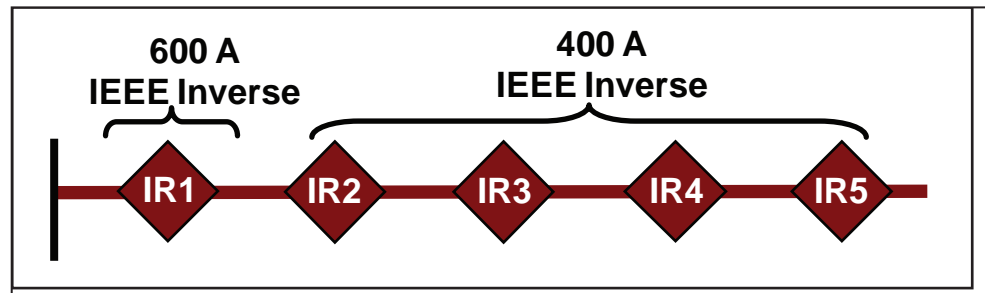

Figure 18. CEC temporary fault; all IntelliRupter fault interrupters are closed and coordinated.
- All IntelliRupter fault interrupters are closed and coordinated where possible. See Figure 18.